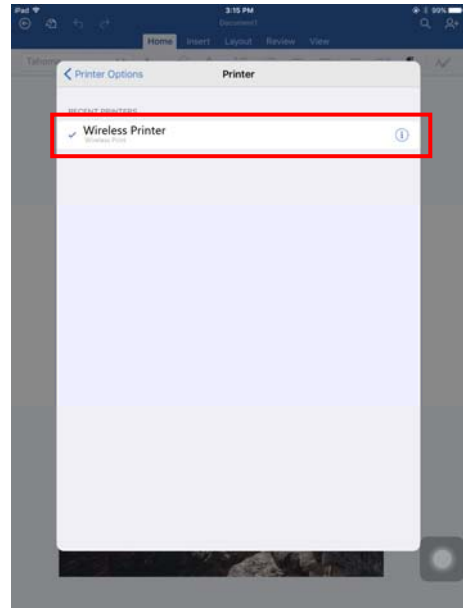

Figure 42
2.6 Select "Wireless Printer" in the list, as shown in Figure 42.